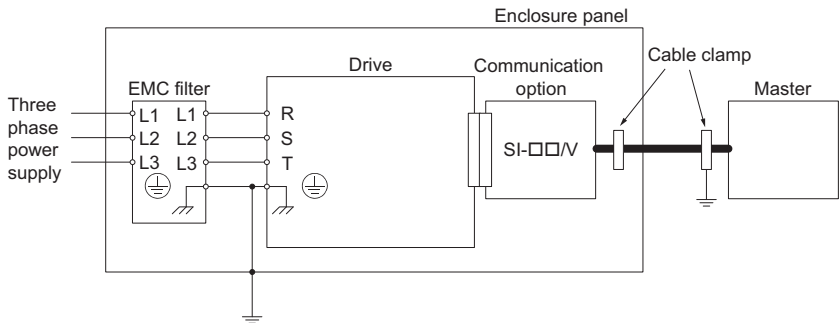

Figure 26 Option Installation for CE Compliance
2. Keep wiring as short as possible and ground the largest possible surface area of the shield to the metal panel according to Figure 26.